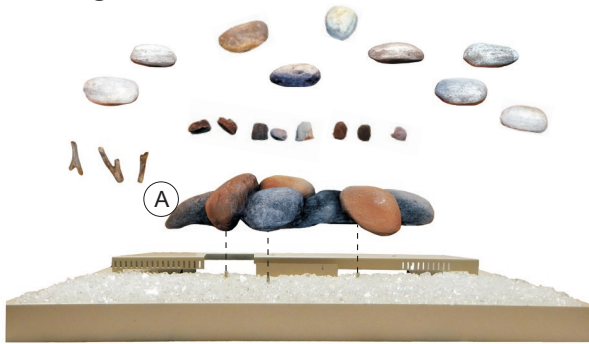
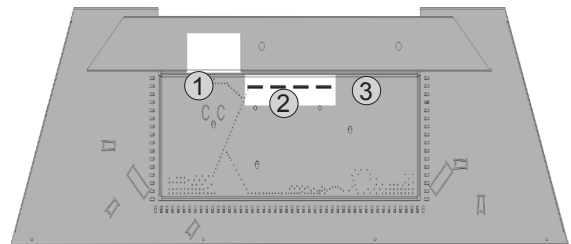

Figure 1
Figure 3
2. Place thin layer of crushed glass (sold separately) over the burner surface and cover as shown in **Figure 1**. One bag of crushed glass is sufficient on DVCC(32,36) models, and one and a half bags for DVCC42 models. Crushed glass may be anywhere on burner cover, modern cover, or burner except the rectangular ports and burner around the pilot. **See Figure 3**.